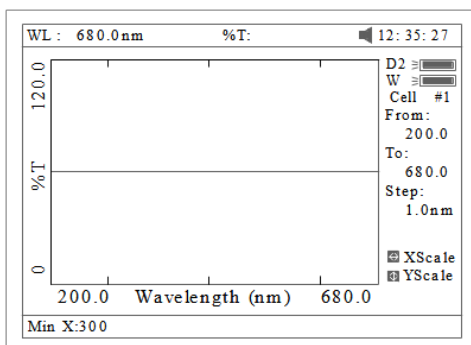

Fig 47
5. If you want to change the scale, press [<] or [>] to change “x” scale (Fig 47), input upper limit and lower limit by pressing the numeric keypad . To change “y” scale press [\wedge] or [\vee] .